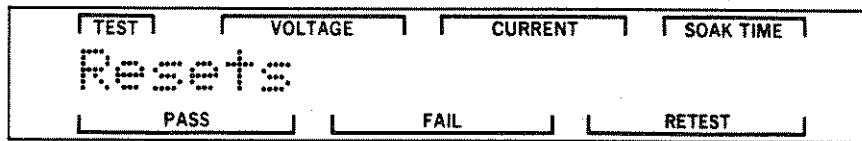

Figure 3-36. Reset Entry Screen
- STEP 6. Press the DOWN pushbutton once. The 5300 will display the Reset Entry screen. This screen provides access to the system resets. Figure 3-36 is an example of this screen. Press the RIGHT pushbutton to display one of the resets.